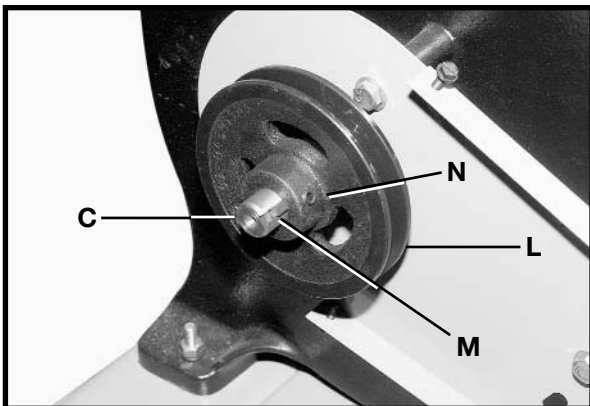

Fig. 13
5. Attach the arbor pulley (L) Fig. 13 to the arbor shaft (C) with the hub of the pulley in the "out" position. Insert key (M) in keyway of arbor shaft. Tighten the set screw (N).